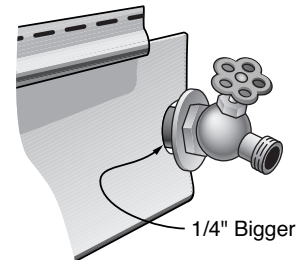

Fig. 3
- Cut a slot 1/4" bigger than the fixture. (Fig. 3)